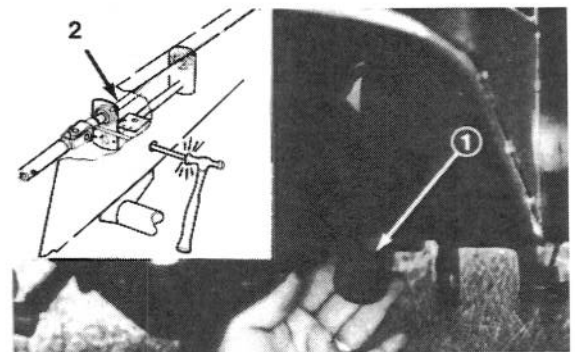

Figure 11
2. Remove (5) wheel nuts and slide the wheel off the axle to expose the access hole in the side of the chassis (Fig. 11).
3. Rotate the PTO shaft to align the hole in the PTO shaft with the hole in chassis (Fig. 11).
4. Through the access hole in the chassis, drive the roll out of the PTO shaft and output shaft with pi punch and hammer (Fig. 11).
6. Reinstall the wheel with (5) wheel nuts previously removed. Tighten the nuts to 80–109 kPa.